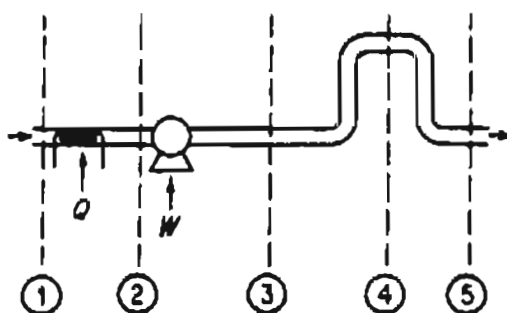

Figure E24.1
Figure E24.1 illustrates a process in which several segments are distinguished by numbered boundaries. List the simplifying assumptions to make in Equation (24.1) for the following segments: 1 to 5, 4 to 5, 3 to 4, 3 to 5, and 1 to 3.
- Simplify Equation (24.1) as much as possible for sections (a) 2 to 3 and (b) 2 to 4 in Figure E24.1